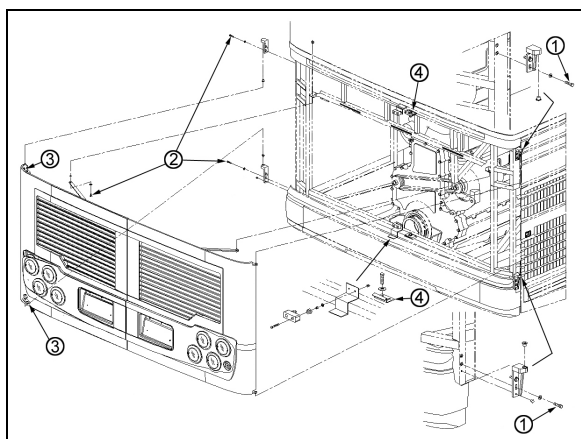

FIGURE 56: ENGINE COMPARTMENT DOORS
1. Loosen the bolts, (1, 2 Fig. 56) holding the hinge to the vehicle structure to shift the door "UP or DOWN".
2. Loosening the bolts (3, Fig. 56) allows the door to be shifted "LEFT or RIGHT" and "IN or OUT".
To adjust the latch mechanism (4, Fig. 56) and the striker pin: